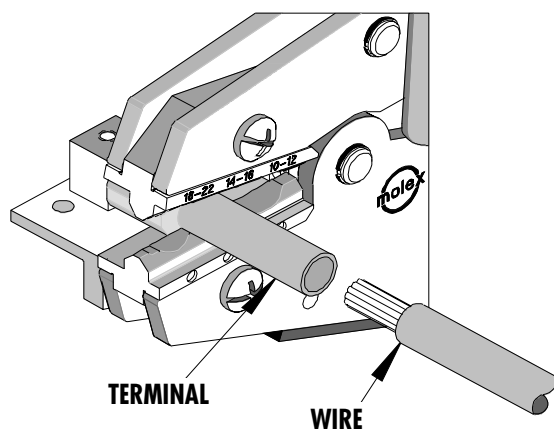

Figure 2
4. Partially close the hand tool jaws until the connector is held snug in place, See Figure 2.
5. Insert the properly stripped wire into the terminal barrel (See Figure 2 and 3).